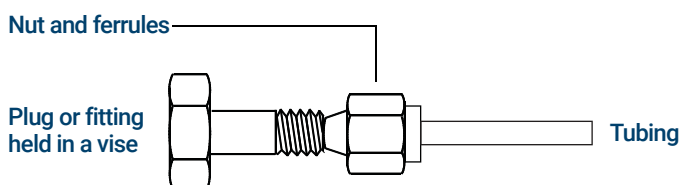

Figure 53. Assemble the fitting
- 3 Push the tubing into the stainless steel plug. See **Figure 53**.